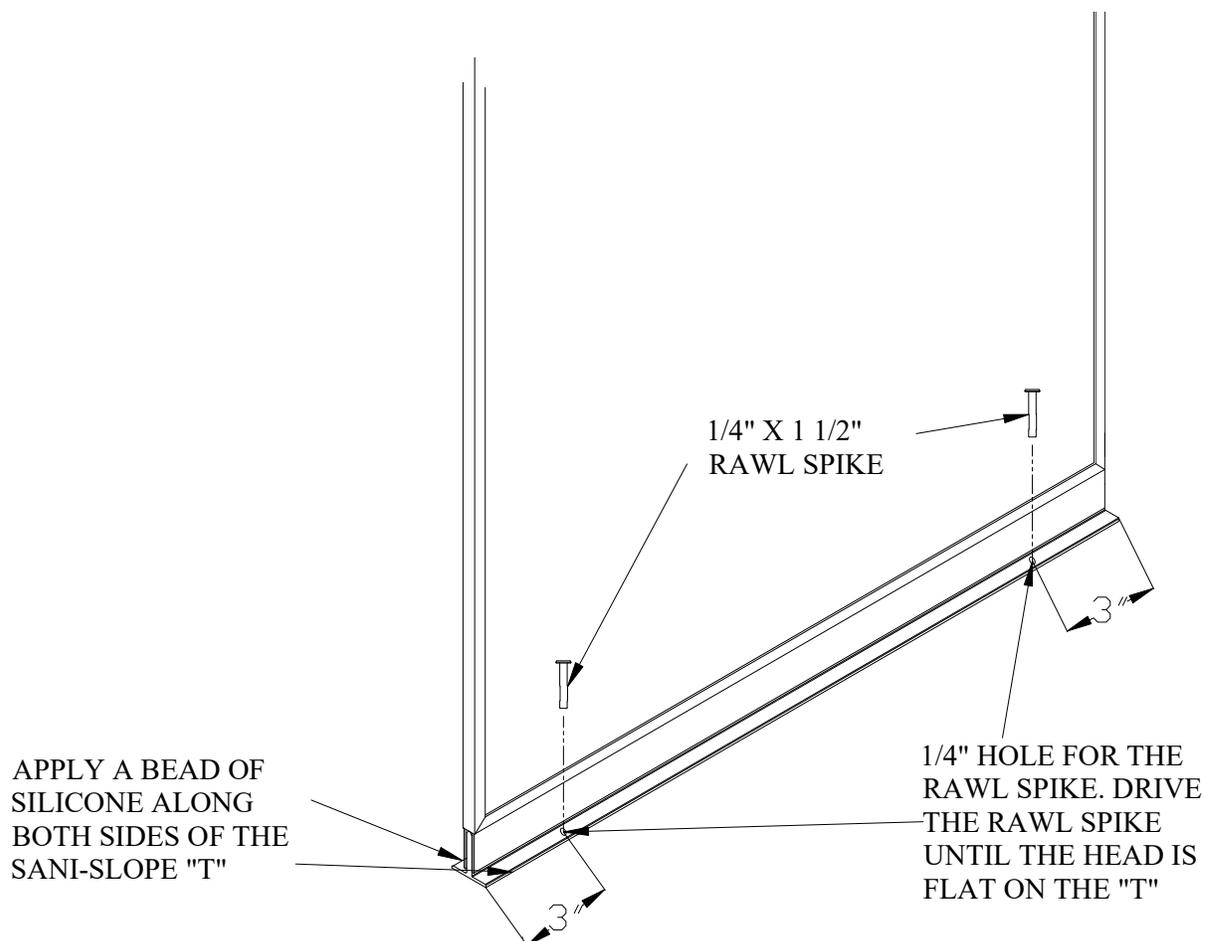

Figure 14
5. Using the 5/16" drill bit, pre-drill the "Sanislope T's" for the outside division panels only, as shown in Figure 14. These holes will be used later to anchor the system to the floor.
3. Repeat steps F-1 and F-3 for all hole locations shown in Figure 14.
2. Apply a thin bead of sealant provided along the seam created between the “Sanislope T” and the concrete as shown in Figure 14 above.